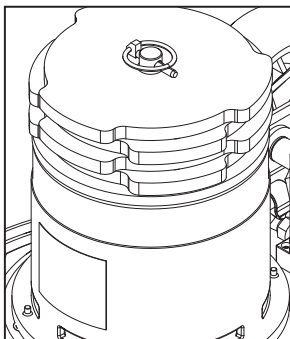

Figure 10
This Machine comes with four (4) 6.25 pound (2.8 kg) removable weights for a total of 25 pounds (11.3 kg) maximum that can be added to increase the PSI load and abrasive performance. See figure 10.